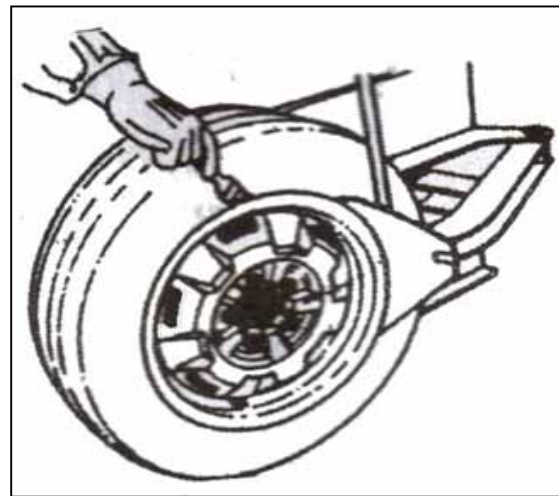

Fig. 18
4.1.2 Place the tire between the bead breaking blade and rubber contact pad (Fig. 18). Then step down on the Bead Breaker Pedal (Figs. 2-10 or 3-10) to detach the rim from the tire. Repeat the same operation on the other sections of the tire to fully detach from the rim. Place the wheel with the tire detached from the rim on the turntable and step on the Clamp Pedal (Figs. 2-9 or 3-9) to clamp the rim. Note: You can select either the outer clamping or inner clamping to properly clamp the wheel according to different rim types.